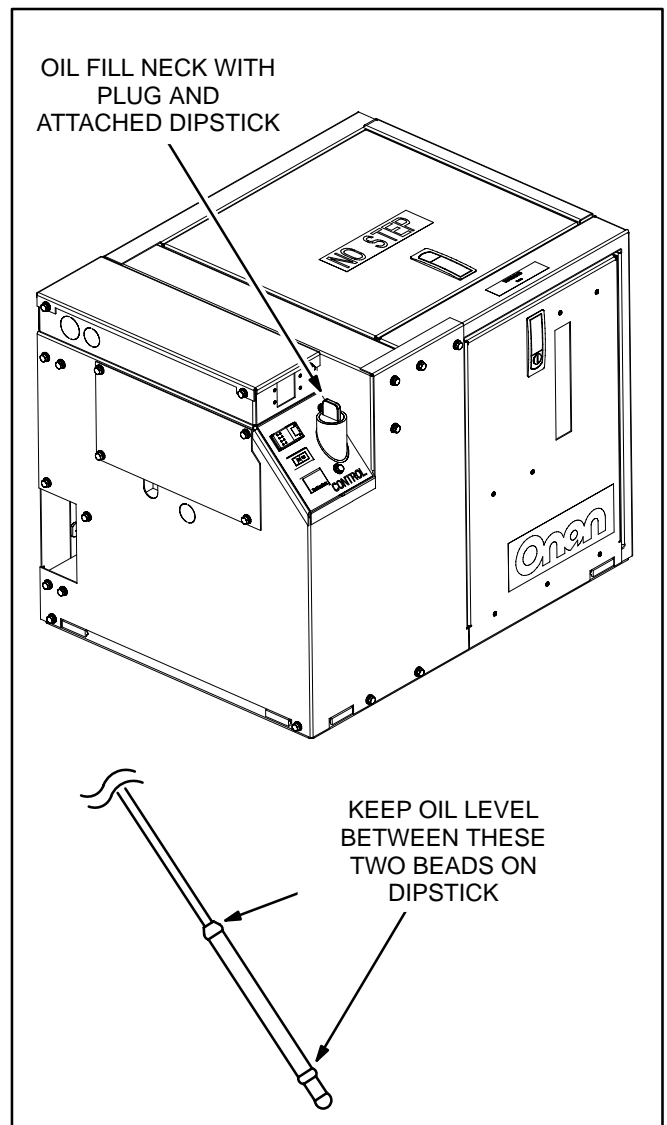

FIGURE 3-1. OIL FILL NECK AND DIPSTICK
1. Pull the plug and dipstick out of the oil fill neck (Figure 3-1). The plug may be difficult to pull straight out. It is easier if you tilt the plug in its socket while pulling out. Wipe off the dipstick and thread it back into the fill neck and seat the plug, which snaps into its socket. Remove the plug and dipstick again and check the oil level on the dip stick.
2. Remove the oil fill plug (Figure 3-1), open the front access door and drain the engine oil into a container by opening the drain valve (Figure 3-2). (The drain valve has a 3/8 NPT outlet for connecting a hose fitting to facilitate oil draining.) If an oil pump-out system is installed, follow the instructions provided.